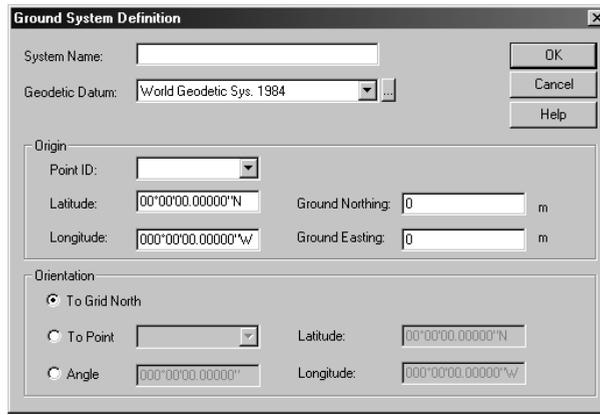

Figure 9.10. Ground System Dialog Box
2. Select **NEW** as the **Ground System**, and click the **Define** button  to open the **Ground System Definition** dialog box (Figure 9.10).